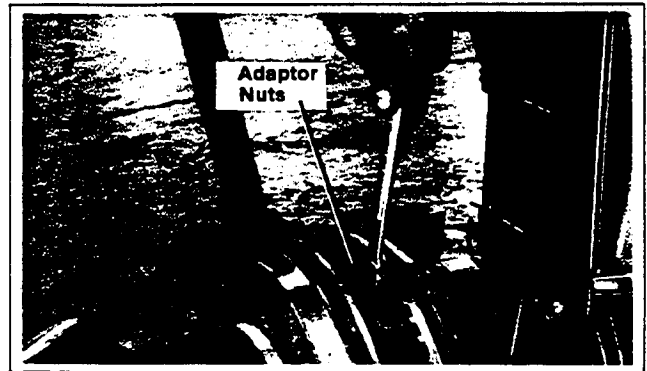
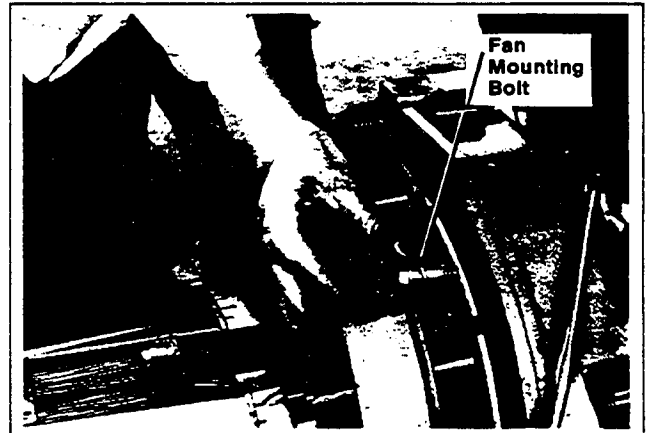
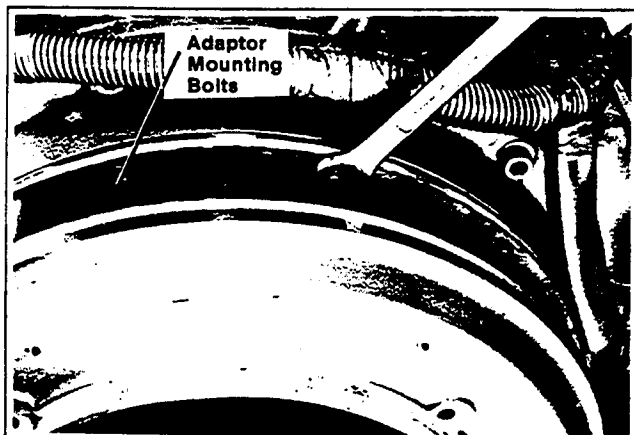

Figure 5-9. 10RMOY Adaptor Removal
Figure 5-10. 10RMOY Fan Mounting Bolts
Figure 5-11.
13. On the 10RMOY models, to remove the adapter assembly, remove the adapter mounting nuts. Figure 5-9. Then remove the fan mounting bolts. Figure 5-10. On the 10RY, 15RMY, 15RMOY, 17RY, and 17.5ROY models, remove adapter mounting bolts. Figure 5-11.